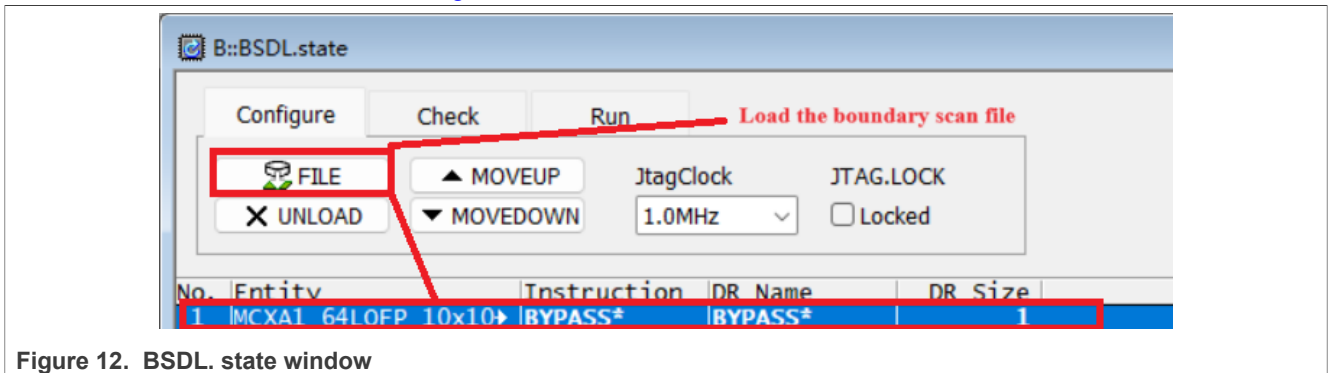

Figure 12. BSDL.state window
- The BSDL.state window appears. Click the **FILE** button and load the BSDL file you want to validate. The BSDL.state window is shown in Figure 12.